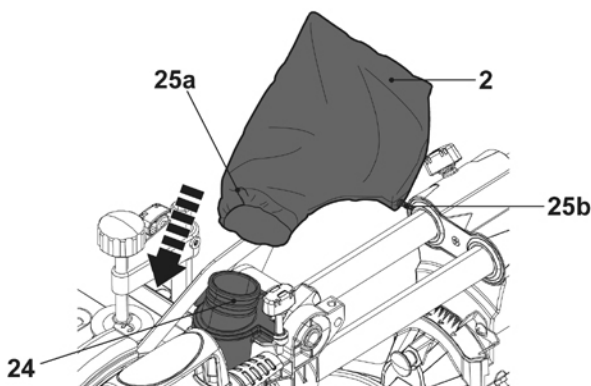

Fig. 5
- > Attach the dust collection bag (25) onto the dust extraction outlet (24) (Fig. 5). Ensure the fastening clamp (25a) of the dust collection bag sits properly around the dust extraction outlet.